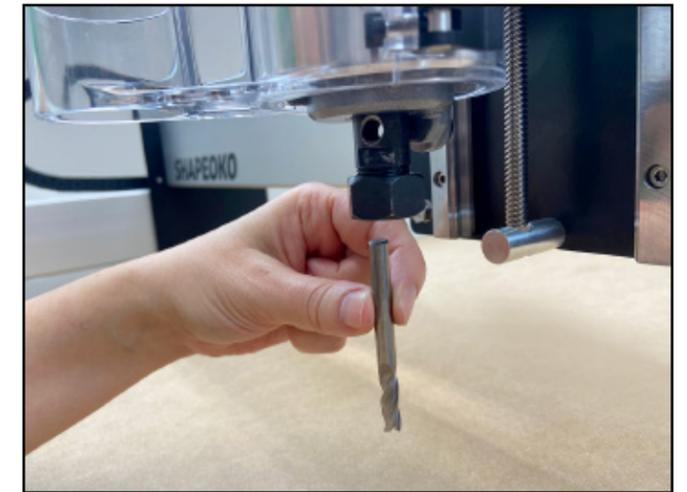

Figure 8-9
1. Clean and insert the end mill shank into the loosened collet a minimum of 0.75" (20mm), the entire length of the collet cone and nut. See **Figure 8-9**.